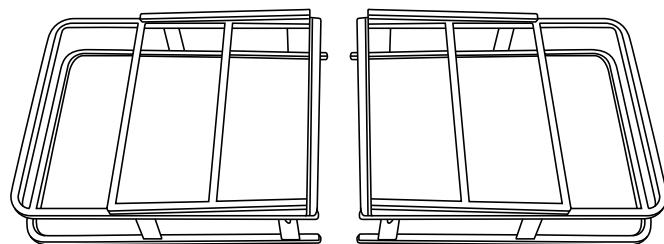

Fig. 1
- Place the two Basket Halves bottom up on a flat surface and slide together using the locating pins at the end of each basket half to help mate the two pieces together. **(Fig 1)**